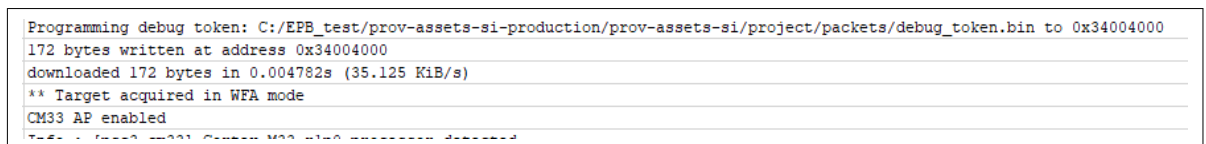

Figure 23 Console log for CM33 AP port enabled
7. Figure 23 displays the log in the ModusToolbox™ console for the scenario where the debug port is open (use case 2) and a valid debug certificate is provided